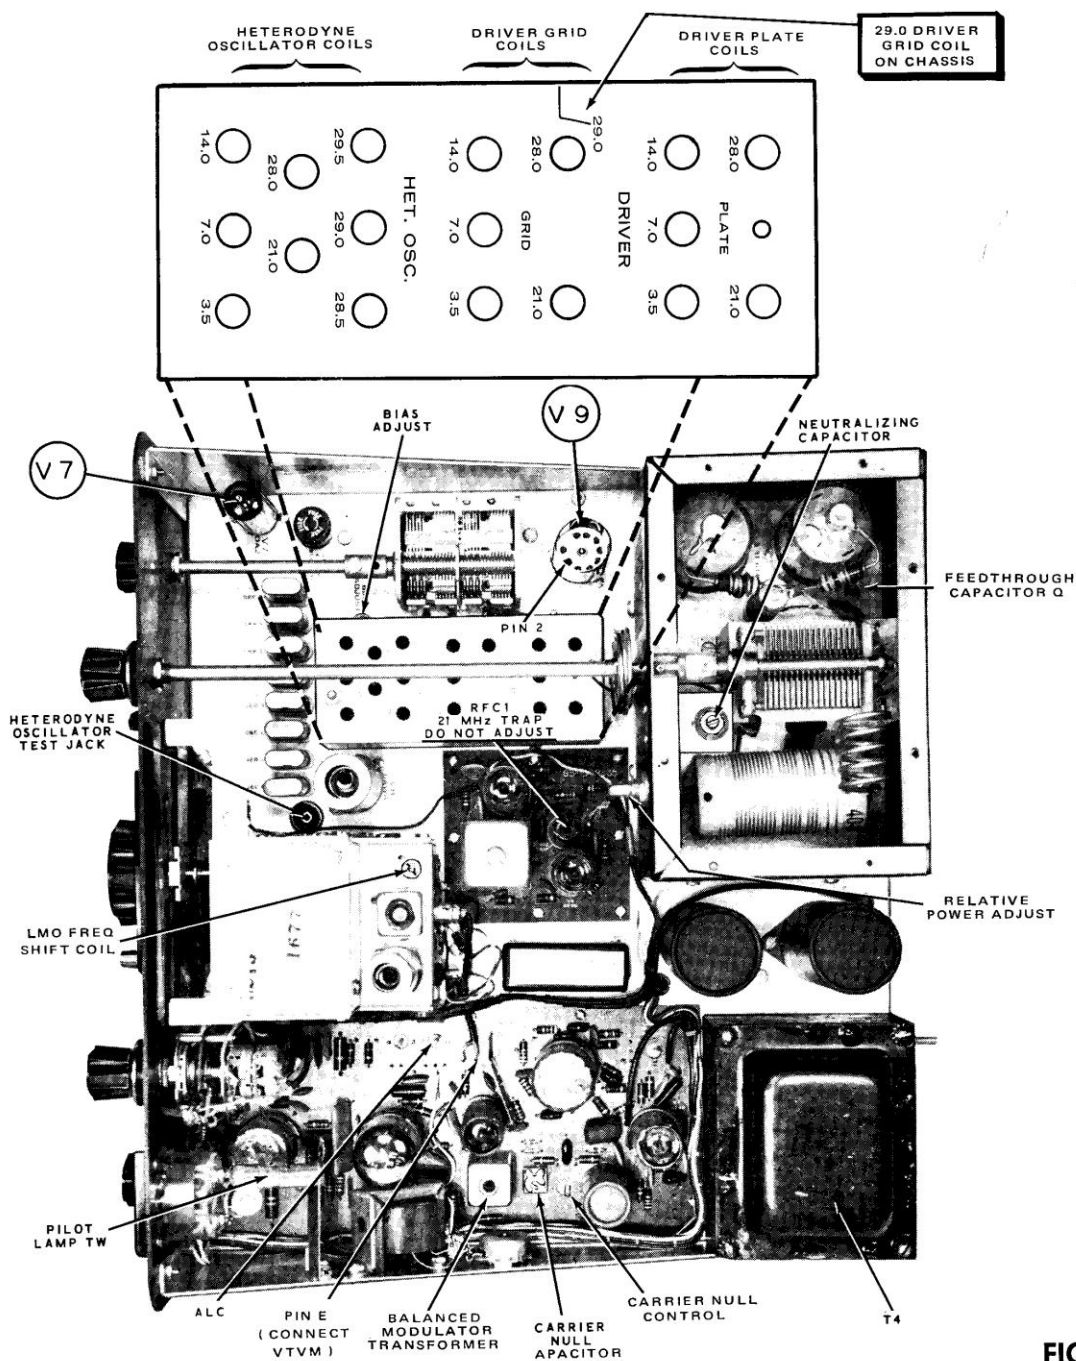

FIGURE 2-2
Refer to Figure 2-2 (fold-out from Page 93) for test points and adjustment locations.
- () Preset the notch of the variable capacitor on terminal board #1 as it is shown in inset #1 of Figure 2-2.
- () Adjust the variable capacitor on terminal board #1 (see Figure 2-2 fold-out from Page 93) for minimum on the VTVM.